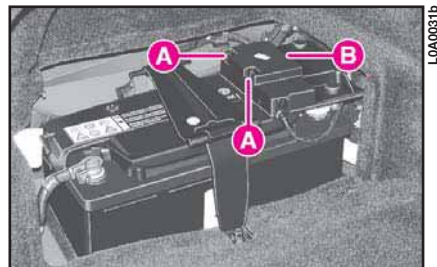

fig. 131
- 3) Press tabs **A** (fig. 131) and remove cover **B**.